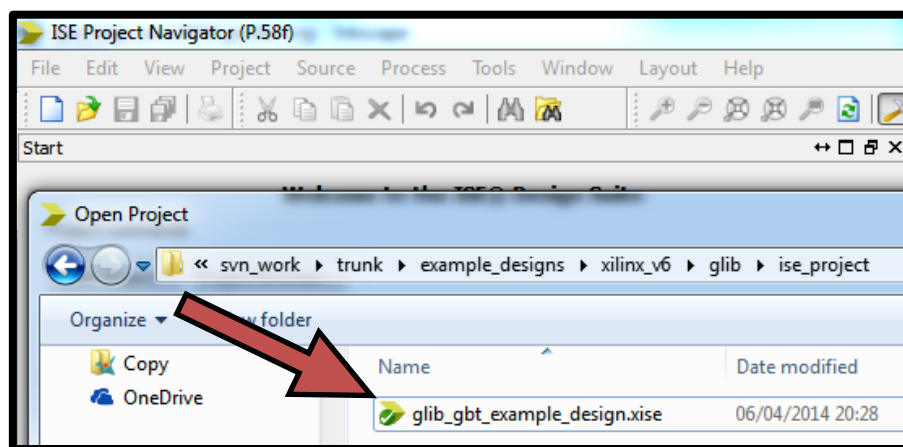

Figure 27: Folder of the ISE project file (.xise)
11. Open the folder where the ISE project file of the selected GBT-FPGA example design (in this case "glib_gbt_example_design.xise") is stored and double click on it for opening the project in ISE (if it is the first time that you open the GBT-FPGA example design, the folder only contains the .xise file) (see Figure 27).